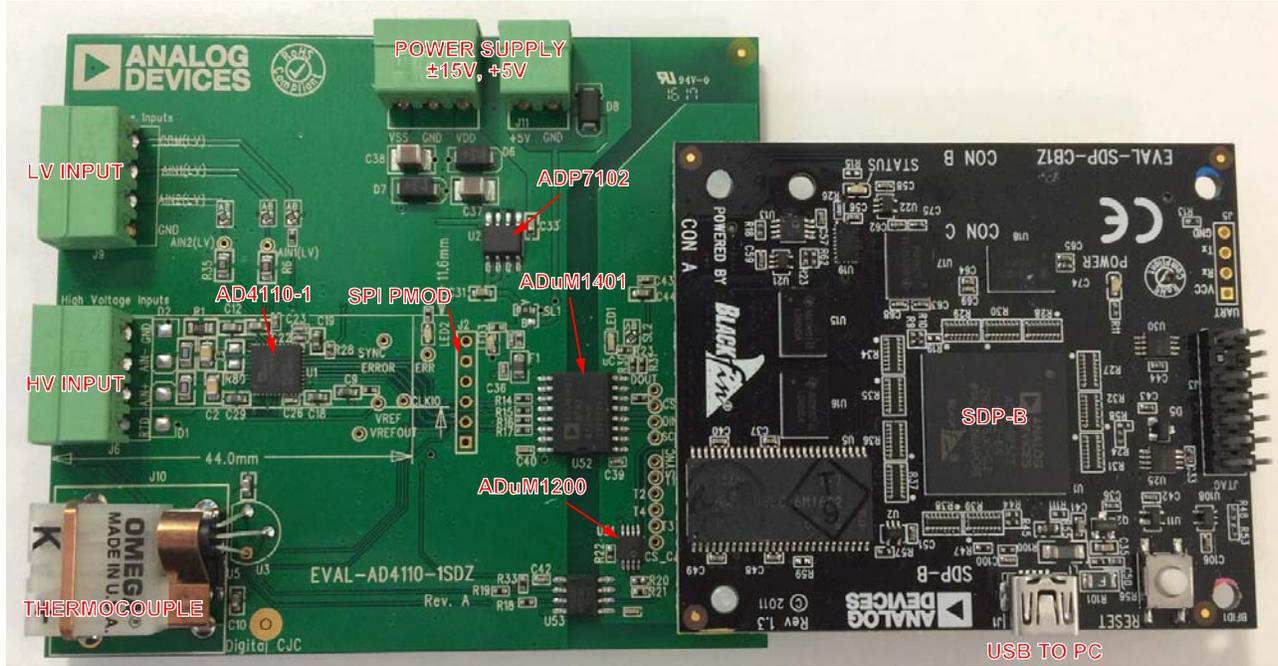

Figure 2. Hardware Configuration—Setting Up the EVAL-AD4110-1SDZ
The EVAL-AD4110-1SDZ evaluation board connects to the SDP-B controller board, which is the communication link between the PC and the evaluation board. Connect the EVAL-AD4110-1SDZ board to Connector A (CON A) on the SDP-B board, as shown in Figure 2.
A ±15 V power supply is recommended and must be connected to J14, as shown in Figure 2.
4. Apply the external voltage ($\pm 12\text{ V}$ to $\pm 20\text{ V}$) to the power supply connector of the EVAL-AD4110-1SDZ board as shown in Figure 2.